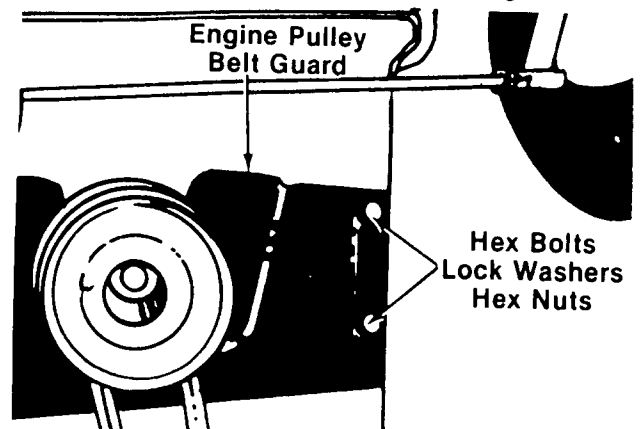

FIGURE 31
- Remove the two bolts, lock washers and nuts on each side of the frame which hold the engine pulley belt guard to the frame. See figure 31.